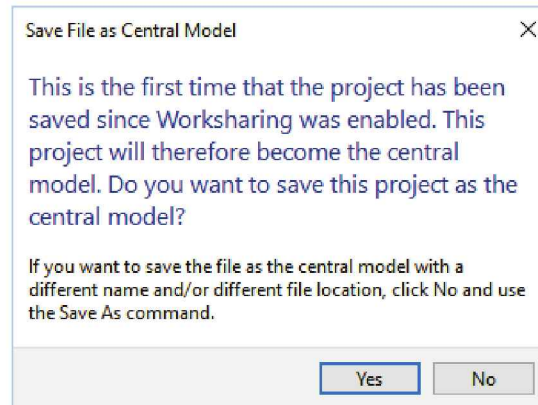

FIGURE 17-2.4 Worksharing related notice
- Click **Yes** (Figure 17-2.4)